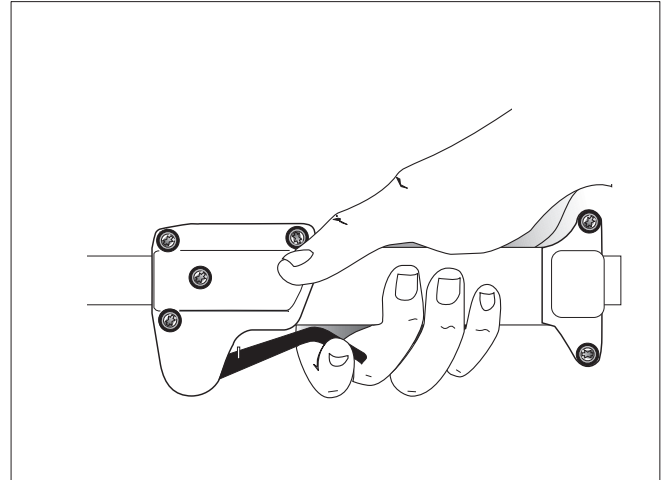

Figure 1-5. Typical Throttle Control.
5. Squeeze the throttle trigger to “FULL THROTTLE” (Figure 1-5). Hold or lock the throttle in this position.